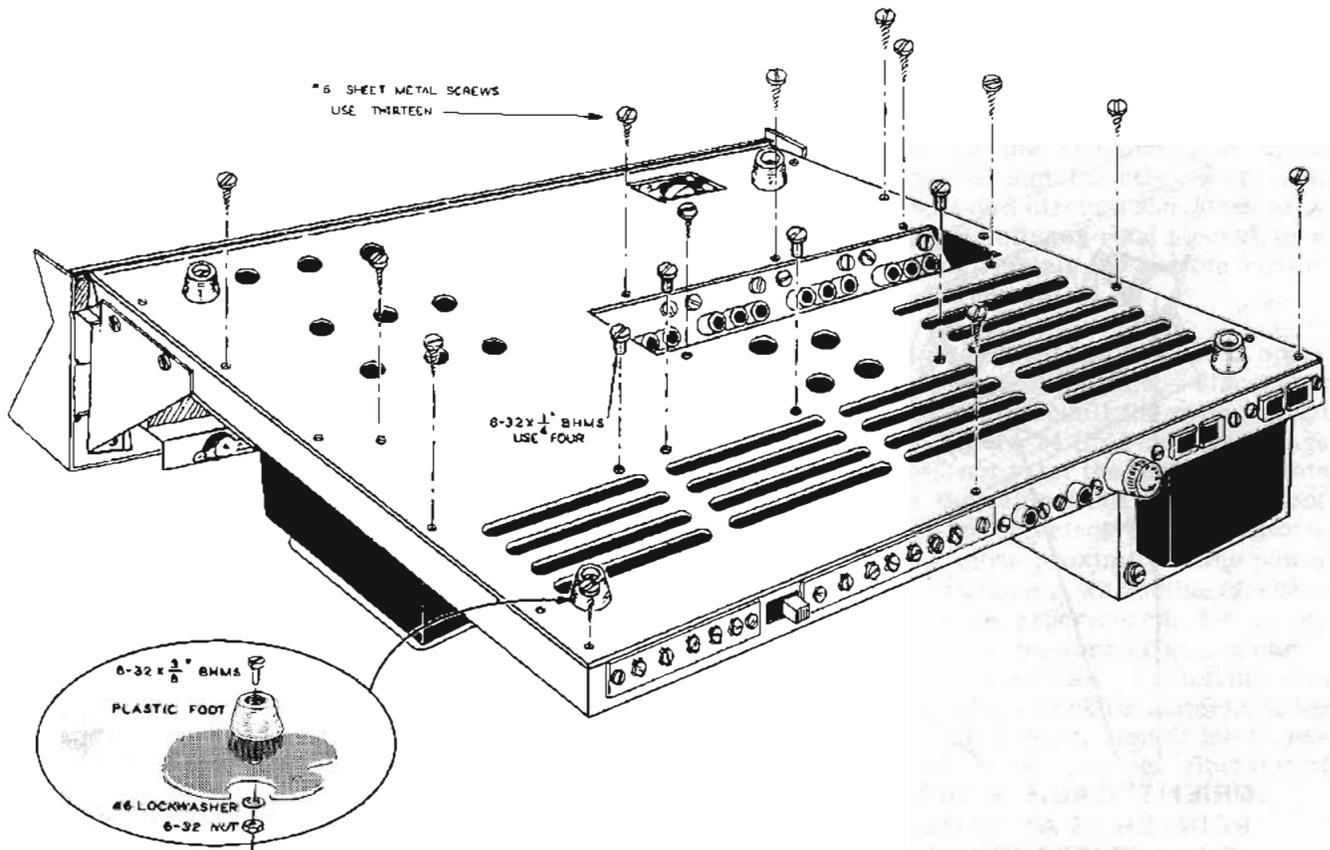

Figure 22
- () As shown in Figure 22, install the four plastic feet on the chassis bottom cover. Then install the bottom cover, using thirteen #6 sheet metal screws, and four 8-32 x 1/4" BHMS. Note: Use only the screw holes indicated; the remaining six holes will be used when the cabinet shell is installed.
present at the junction of R-105 and R-106 (also hole 40 on small circuit board). The latter voltage is NEGATIVE with respect to chassis. Note the conditions of measurement stated on the schematic. If these voltages deviate significantly more than 10%, the associated circuits should be carefully checked. If voltages read normal, turn power OFF and install the bottom cover, as shown in Figure 22.